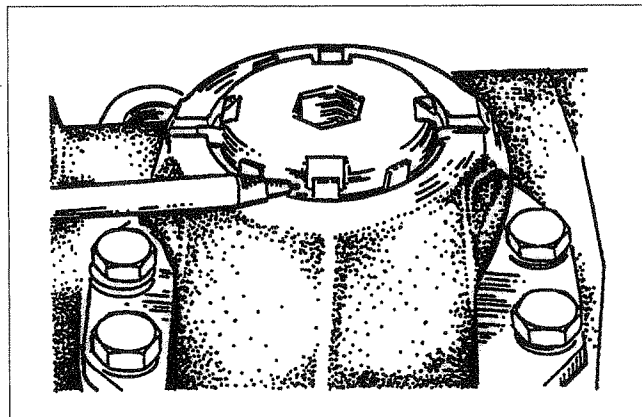

Figure 13
6. After reaching the specified torque, continue tightening the retainer until two restraining tabs align with two notches in the retainer (Figure 13).